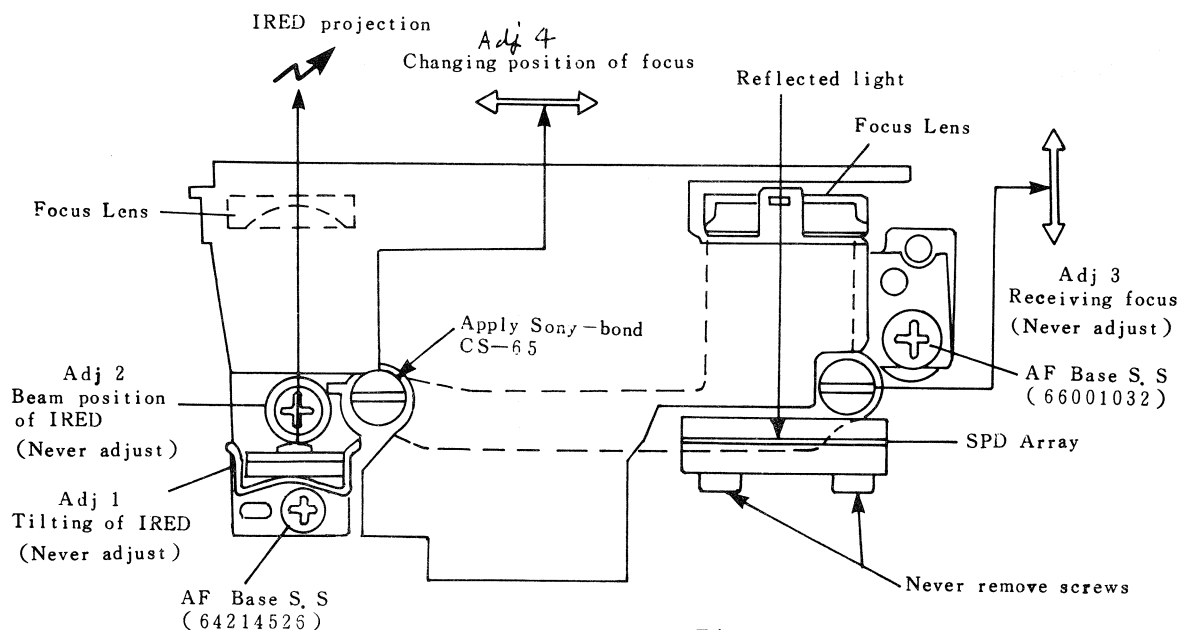
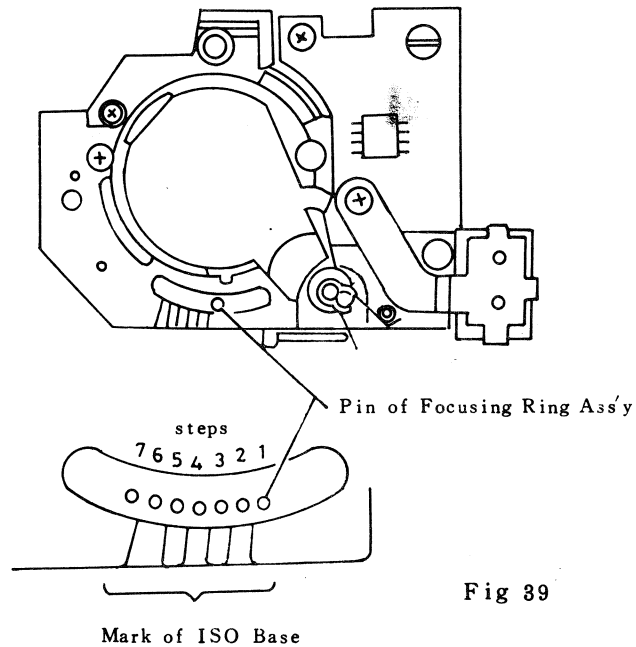

Fig 38
Fig 39
- 2) Aim the camera at the test chart and release the shutter, where the pin of Focusing Ring Ass'y is stopped at the 4 steps on the mark of ISO Base as shown in (Fig 39) (the AF Stopper (360206) engages the 4 tooth of Focusing Ring Ass'y (370041)). If does not, make adjustment by turning the screw of changing position of focus as shown in (Fig 38), Viewfinder indication LED should be lighten () When press the Release Switch halfway down.
But do not use any solvent fluid (Thinner, Methyl ether keton and Ether alcoholl etc). After completing the adjustment, apply a drop of Sony-bond CS-65 agent to screw of changing position of focus as shown in (Fig 38).